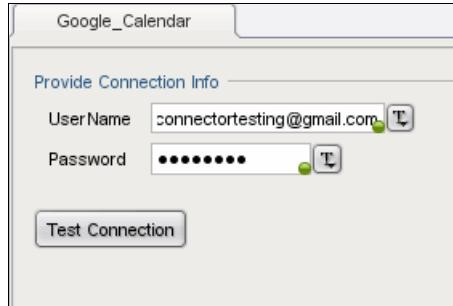

Figure 8-20 Google Calendar Endpoint panel
6. Enter the connection details, as shown in Figure 8-20, and verify the connection by clicking **Test Connection**.